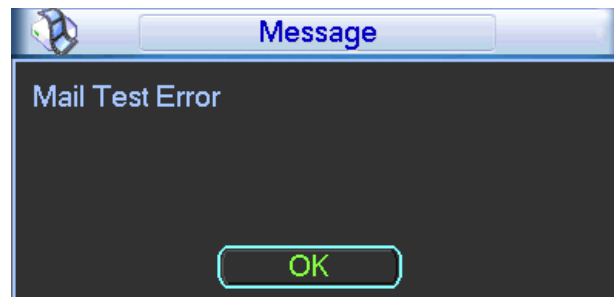

Figure 3-50
- Interval: Please check the above box to enable this function and then set the corresponding interval. System can send out the email regularly as you set here. Click the Test button, you can see the corresponding dialogue box to see the email connection is OK or not. See Figure 3-50.